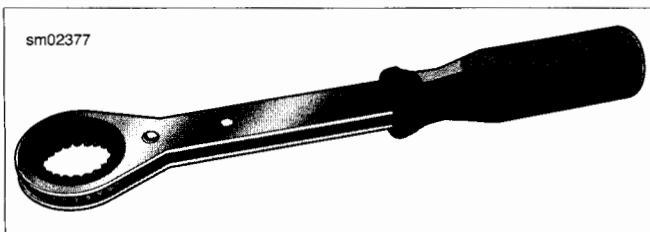

Figure 3-19. Crankshaft Rotating Wrench
- c. See Figure 3-19. **With engine mounted in engine stand** - Install CRANKSHAFT ROTATING WRENCH (Part No. HD-48283) on sprocket shaft and rotate in a counterclockwise direction until the base circle is found.